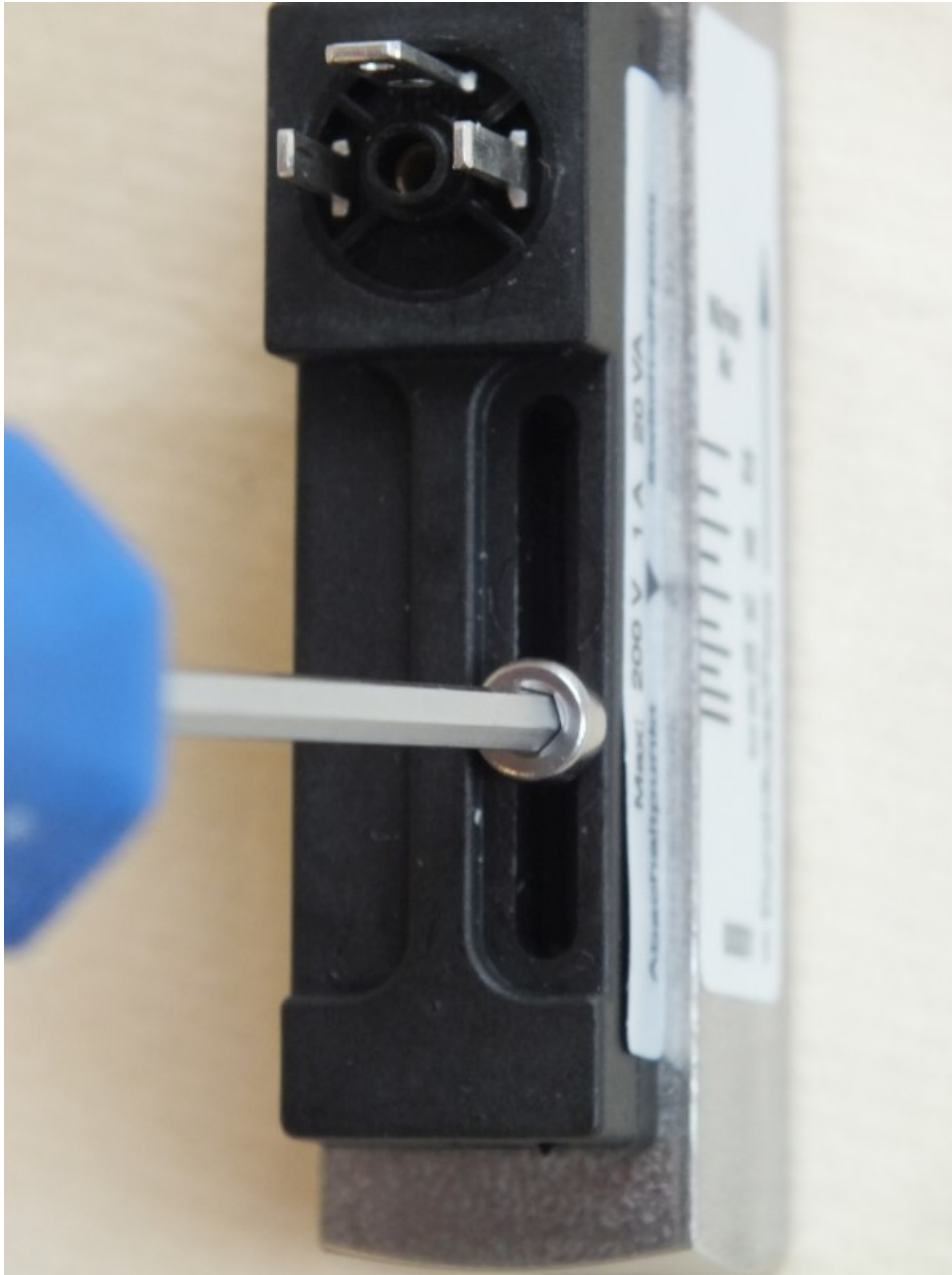

Fig. 51: Loosen set screw
- 3.** ➤ Using a hex screwdriver (*Fig. 51*), loosen, then remove the set screw of the switch contact